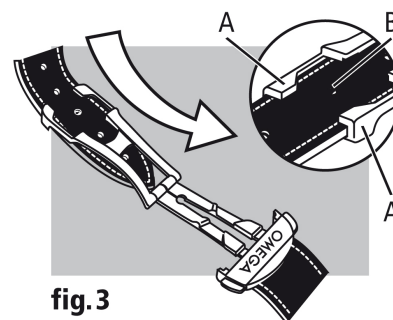

fig.3
Adjusting the length (fig. 3): free the longer section from the two slideways (A) and from the catch (B). Adjust the bracelet in the required direction and reinsert in the catch and the two slideways. Try the watch for size and readjust if necessary.